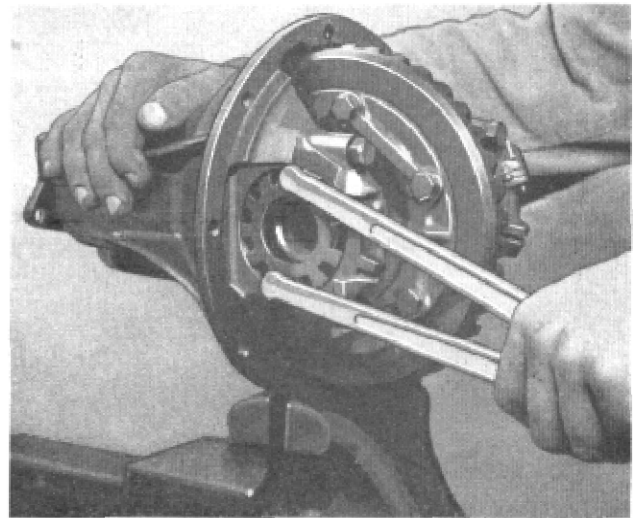

Figure 13
(44) Install differential bearing caps in place and insert cap screws, drawing them up finger tight, and engaging threads on the differential bearing adjusting nuts. Make sure lock washers are in good condition and under cap screw heads.
(45) Turn left hand adjusting nut to right or clockwise until no play can be felt between drive gear and pinion teeth.
(46) Next turn right hand adjusting nut in right hand or clockwise direction, drawing it up tightly, using differential bearing adjusting nut wrench HM-576 (Fig. 13).